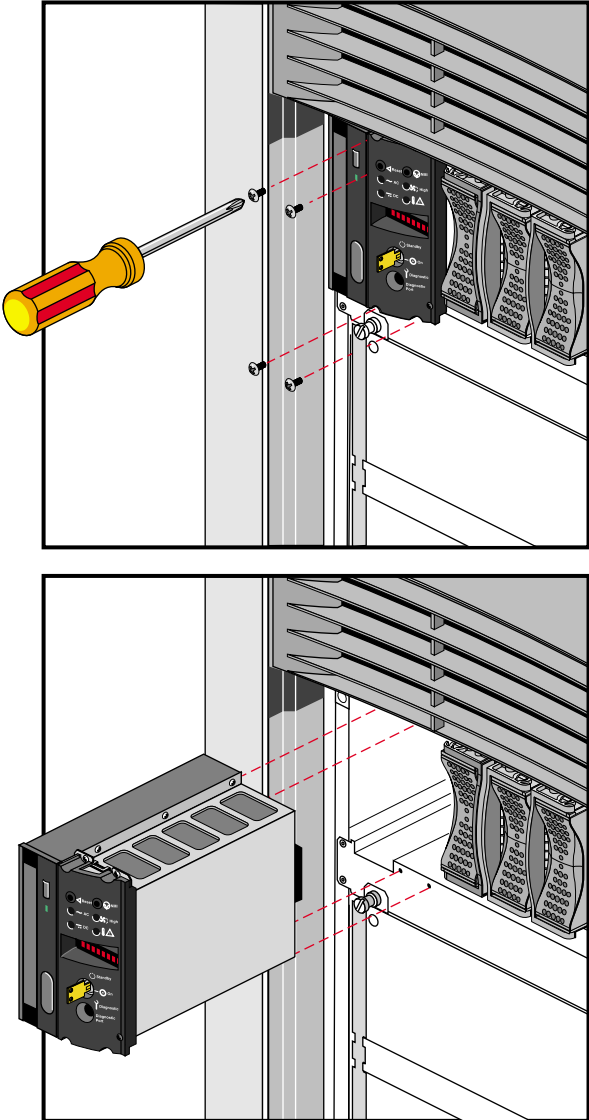

Figure 5-8 Removing the MSC and CD-ROM
3. Remove and reserve the screws that hold the assembly in place, as shown in Figure 5-8.